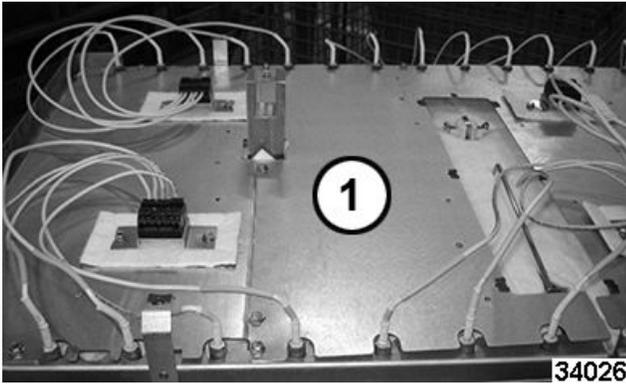

Fig. 47
- Remove access panel (1, Fig. 47) for heating element to be serviced.